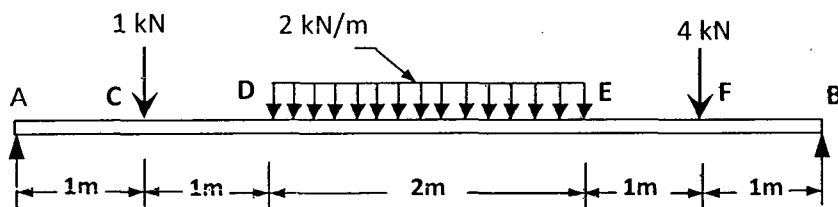

Fig.11
11. Draw the shear force and bending moment diagrams for the beam loaded as shown in Fig 11. (16)